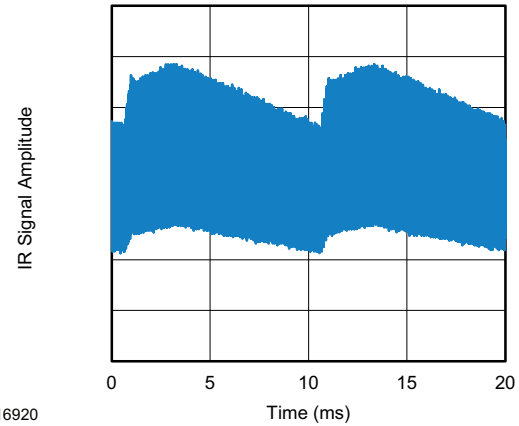

Fig. 13 - IR Signal from Fluorescent Lamp With Low Modulation
- Strongly or weakly modulated patterns from fluorescent lamps with electronic ballasts (see Fig. 13 or Fig. 14)
| Suppression of interference from fluorescent lamps                         | Mild disturbance patterns are suppressed (example: signal pattern of Fig. 13) | Complex and critical disturbance patterns are suppressed (example: signal pattern of Fig. 14 or highly dimmed LCDs) |